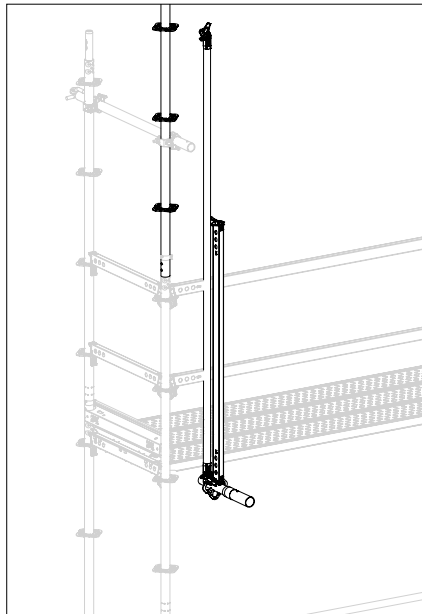

Fig. A4.03a
1. Bring the prepared assembly in front of the base scaffold. (Fig. A4.03a)